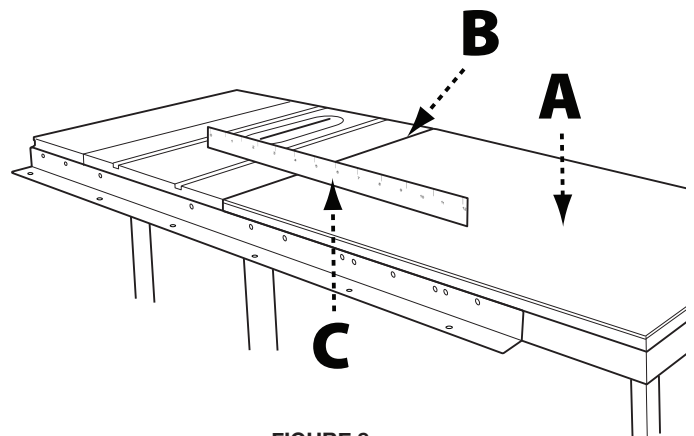
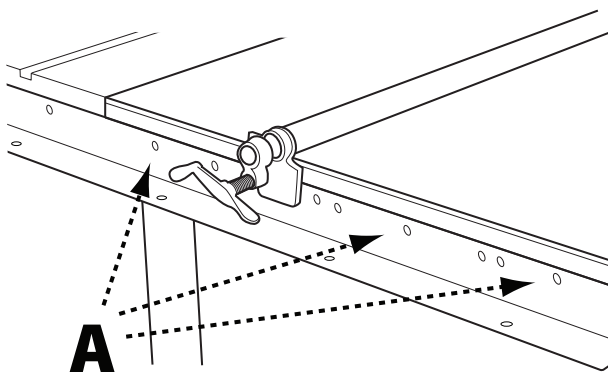

FIGURE 8
FIGURE 9
4. Place table assembly (A) in position between the two rails, as shown in Figure 8. Make sure the saw table edge (B) is flush against edge of the extension table.
5. Using a straight edge (C), make sure the extension table is in the same plane and level with saw table. If necessary, lightly tap up or down and adjust leg leveling screws to bring extension table level with saw table.
6. Use bar clamps as shown in Figure 9 to secure the extension table to the front and rear guide rails.
7. Using the holes (A) in the front and rear guide rails as a template, drill $\frac{1}{4}$ " holes through the front and rear of the extension table.